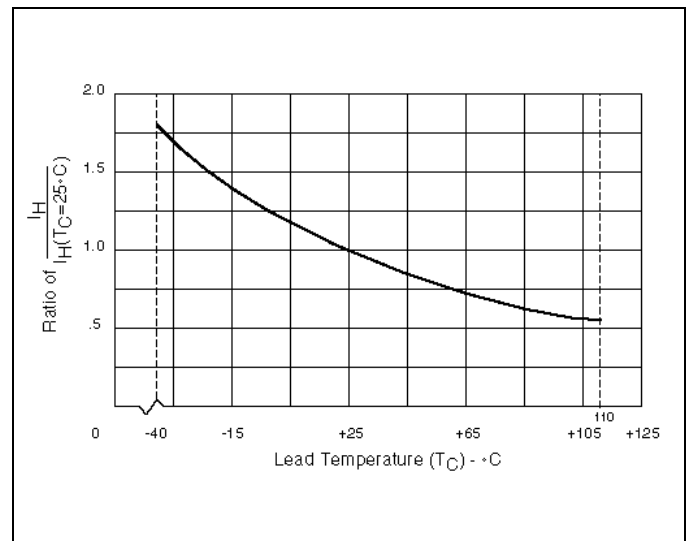

Figure 2 – Normalized DC Holding Current vs Lead Temperature
- See Figure 2 for  $I_H$  vs case temperature.